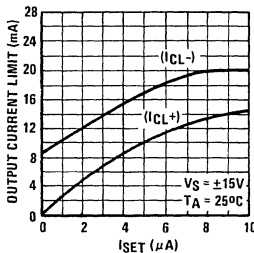

FIGURE 1. Output Current Limit vs ISET
**Output Voltage Swing vs ISET:** For a desired output voltage swing the value of the minimum load depends on the positive and negative output current capability of the op amp. The maximum available positive output current, (ICL+), of the device increases with ISET whereas the negative output current (ICL-) also increases with ISET. Figure 1 illustrates the above.